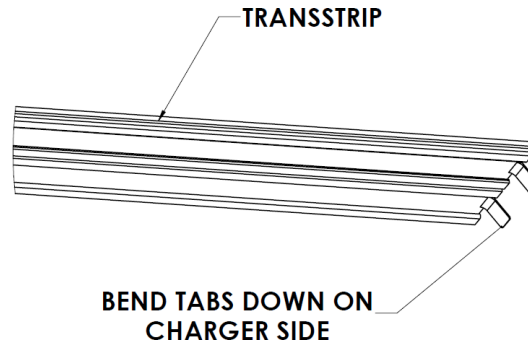

Figure 57: ***Bend the Male Terminal Tabs Approximately 45°***
- e. Use pliers to bend the male terminal tabs approximately 45° (Figure 57).